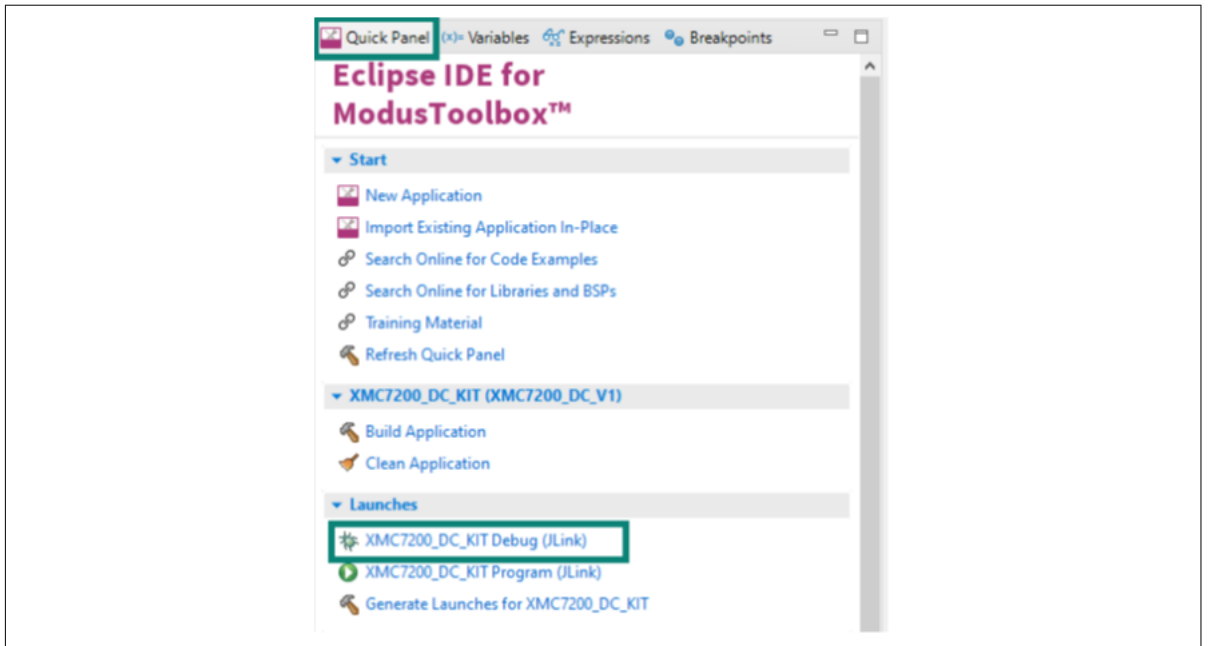

Figure 12 Debugging in the ModusToolbox™ software
- The ModusToolbox™ software has an integrated debugger. To debug a XMC7200D application, in the Project Explorer, select **<App_Name>** project. In the Quick Panel, scroll to the **Launches** section and click the **<App_Name> Debug (JLink)** configuration as shown in Figure 12. For more details, see the “Program and debug” section in the Eclipse IDE for ModusToolbox™ user guide.